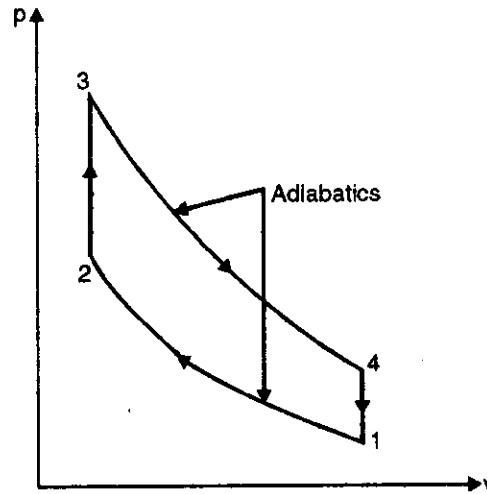

Fig. 13.8
**Solution.** Refer Fig. 13.8. Given :  $\frac{v_1}{v_2} = \frac{v_4}{v_3} = r = 6$  ;  $p_1 = 0.1 \text{ MPa} = 1 \text{ bar}$  ;  $T_1 = 27 + 273 = 300 \text{ K}$  ;  $T_3 = 1569 + 273 = 1842 \text{ K}$  ;  $\gamma = 1.4$ .